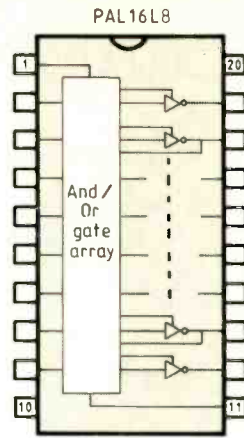

Fig.4. Up to 16 inputs and 8 outputs are available on the 16L8 programmable-array logic i.c.
The Pals used on the 68020 upgrade board are one of the simpler types, the 16L8, whose designation indicates logic low or inverted outputs (L) and 16 inputs and 8 outputs. For a 20-pin device, this number of input and outputs means that some pins are dual purpose, programmable as inputs or outputs, as can be seen from the block diagram of the device, Fig.4.